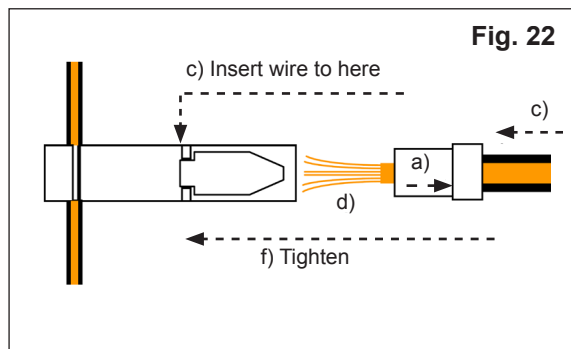

Fig. 22
- 10) Tap accessory wire. (**Fig. 22**)